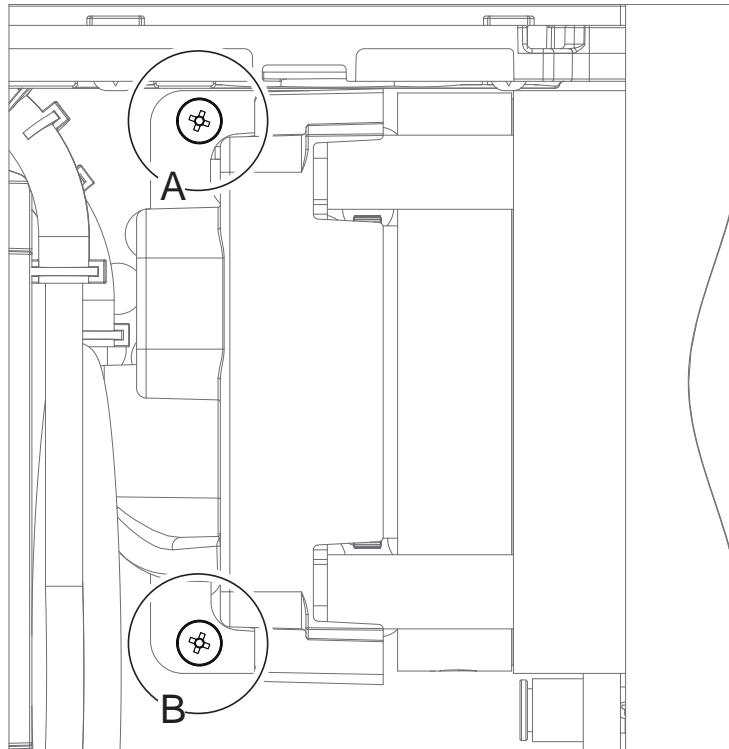
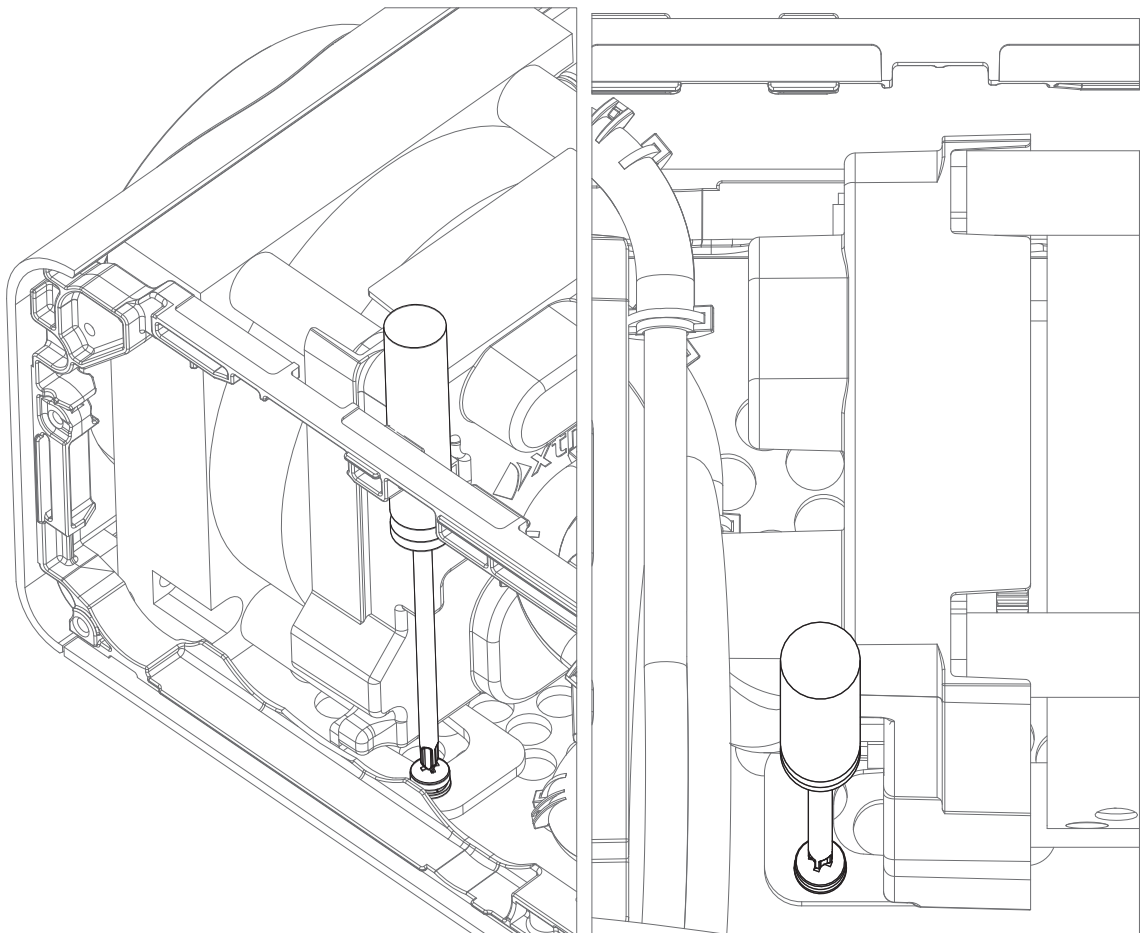

Figure 7-21: Remove rotary valve retaining screws
Figure 7-22: Remove rotary valve retaining screws
6. Remove the two screws (A and B) securing the Rotary Valve to the baseplate (Figure 7-21, Figure 7-22).